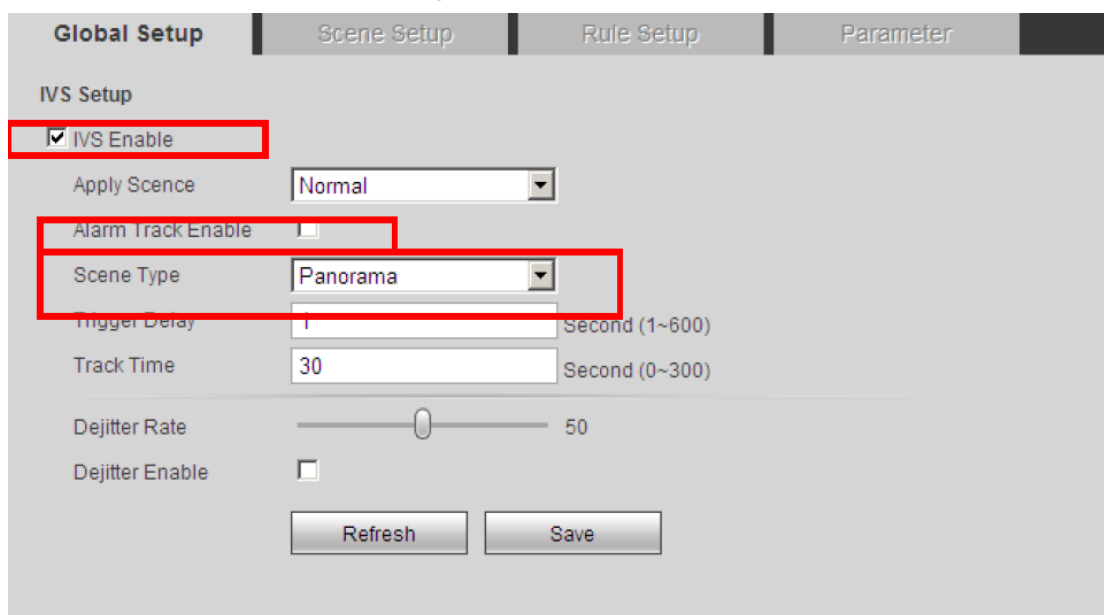

Figure 22-9
2) Set the parameters. See Figure 22-9.